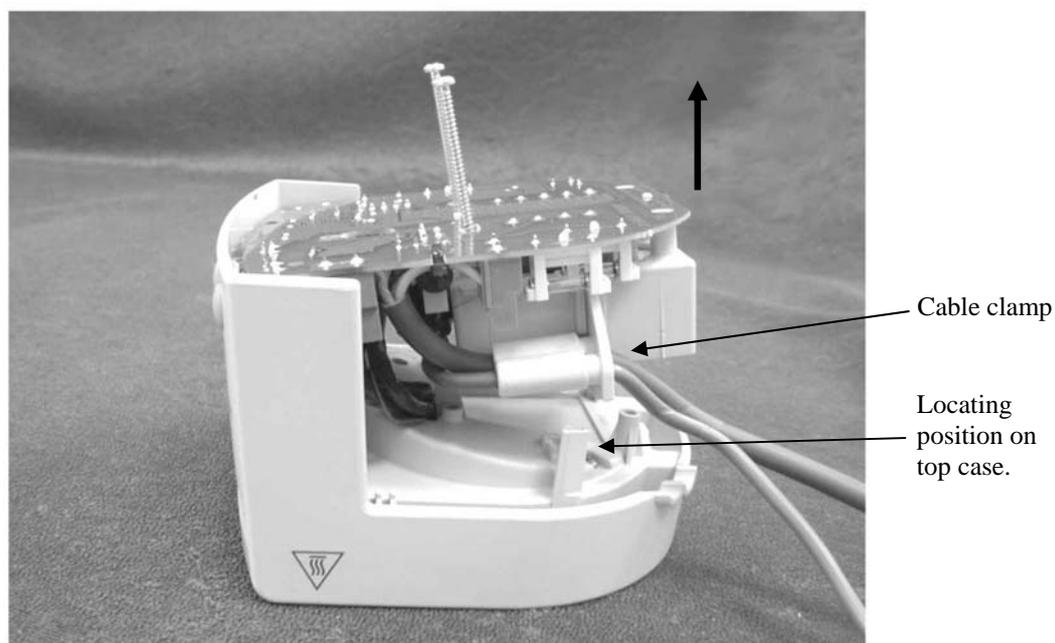

Figure 6.2: Removing the PCB
2. Carefully lift the rear of the PCB up, the cable clamp will need to be guided out of its locator on the top case. Lift the PCB away from the case front (see Figure 6.2 below), and carefully flip the PCB upside down onto the bench.